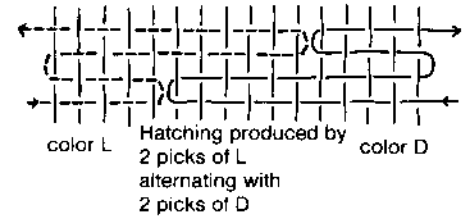

FIGURE 1
**Meet-and-separate** using two colors L and D is done as follows: Open a tabby shed and insert colors L and D from opposite sides of the rug. The colors meet at the *left* edge of the hatched design. Change the shed and return each toward the selvedge edges. The colors separate at the left edge of the hatched design. Change the shed and insert colors L and D, again from opposite sides of the rug. The colors meet at the *right* edge of the hatched design. Change the shed and return each color toward the selvedge edges (see Fig. 1).